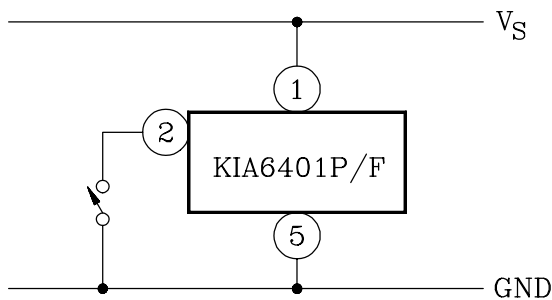

Fig. 1a
When the KIA6401P/F is oscillating ($V_{sus} < V_s$), if PIN ② is connected to GND as shown in Fig. 1a, the KIA6401P/F can stop oscillating. Further, the oscillation of the KIA6401P/F can be stopped by connecting PIN ② to voltage V_I through the resistor R_I as shown in Fig. 1b.